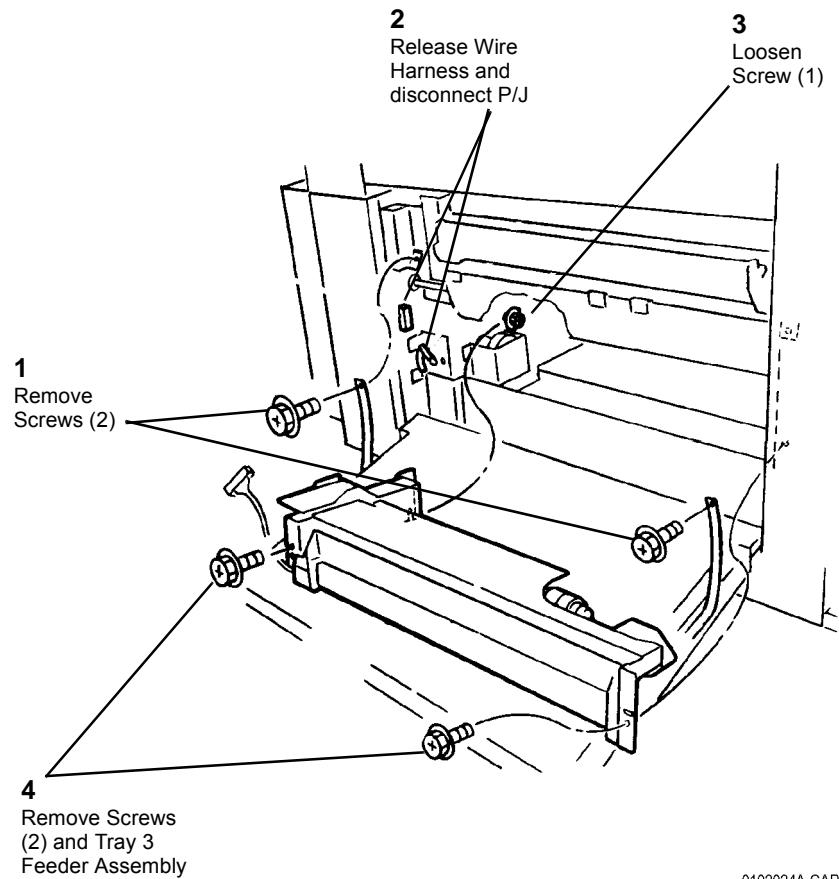

Figure 1 Removing the Tray 3 Feeder Assembly
5. Remove the Tray 3 Feeder Assembly (Figure 1).